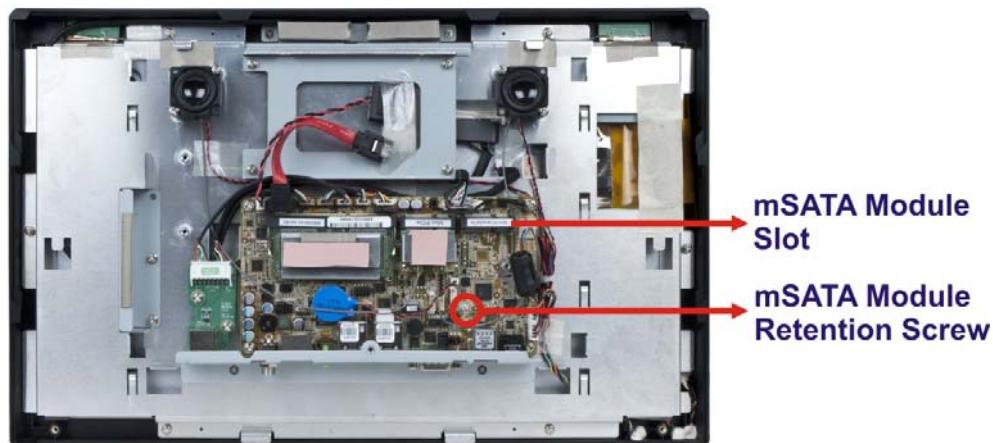

Figure 3-5: mSATA Module Slot Location
Step 2: Locate the full-size PCIe Mini card slot. Remove the preinstalled retention screw on the screw pillar of the PCIe Mini card slot as shown in (**Figure 3-5**).